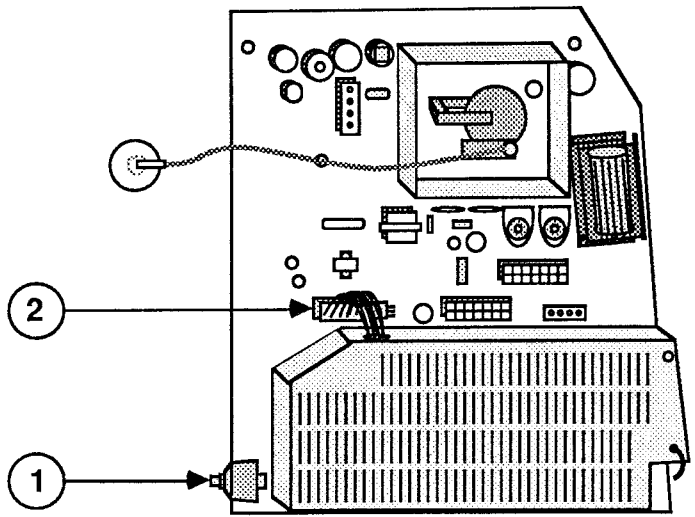

FIGURE 7
9. Carefully move the analog board (with power supply attached) up and away from the chassis, taking care not to bump the CRT or the brightness control knob (Figure 7, #1) at the lower front of the analog board.
10. Disconnect the power supply cable (Figure 7, #2) from the analog board.